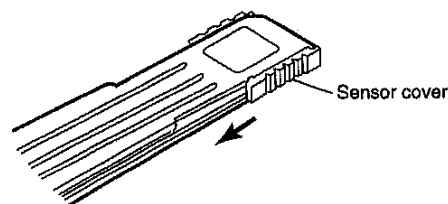

Fig.4
2. Make the sensor cover of the laser power meter slide. (refer to Fig.4)